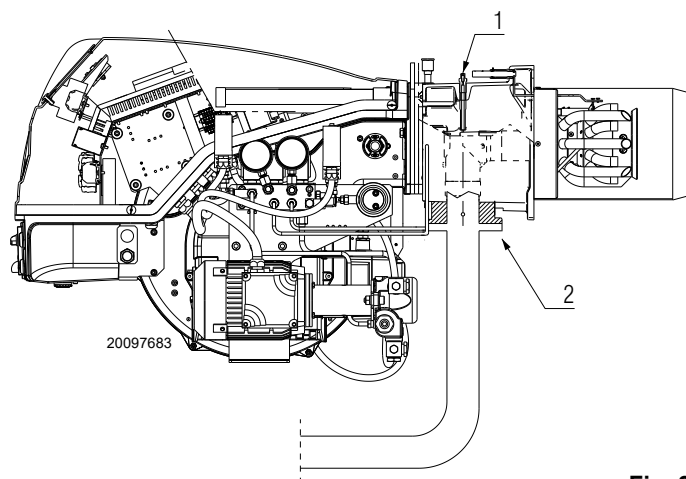

Fig. 28
Gas manifold pressure measured at test point 1)(Fig. 28), with:
- subtract the combustion chamber pressure from the gas pressure measured at test point 1)(Fig. 28).
- Find the nearest pressure value to your result in Fig. 28.
- Gas pressure at test point 1)(Fig. 28) = 5.04" WC